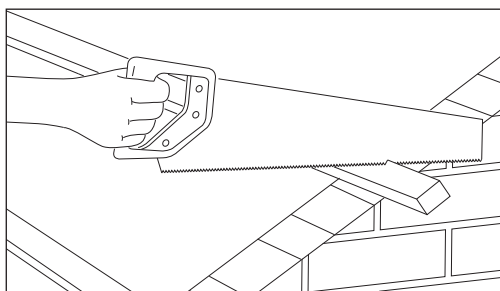

Fig 1 Preparing gable end
- 1 Ensure the gable end is reasonably level and free from projections. The roofing underlay and tiling battens should be laid across the cavity/ gable ladder and the battens finished flush with the outer wall or outer edge of the bargeboard (Fig 1). The verge extrusion is fitted prior to tiling.